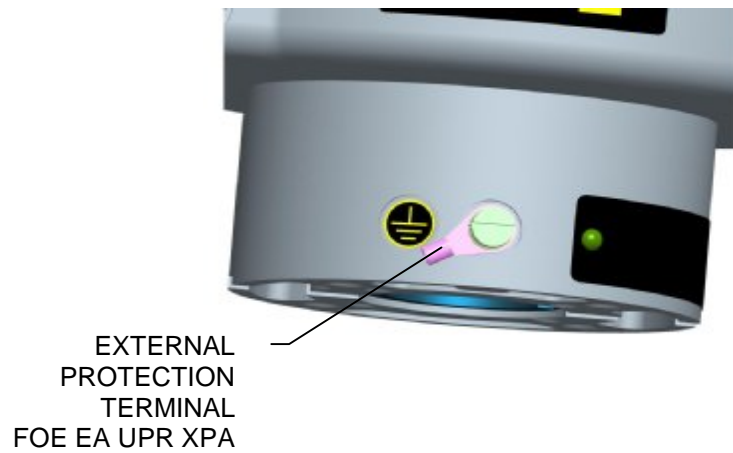
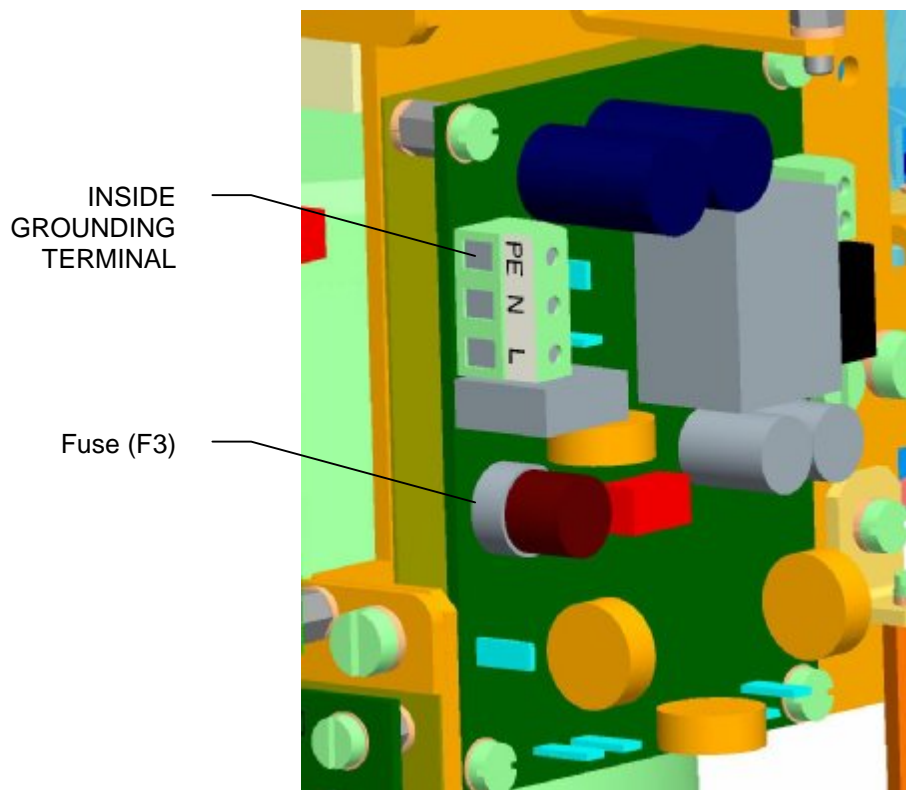
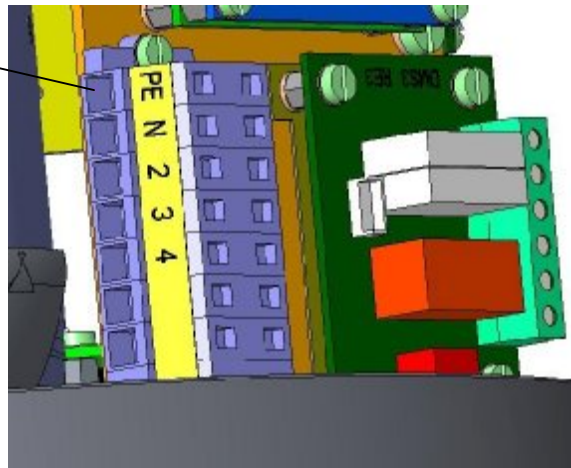

Fig.1C
Fig.1D
Fig.1F
- for safe use of the actuator it is necessary to connect the outside and inside grounding terminal. The position of the outside and inside grounding terminal can be seen in Fig. 1C and Fig. 1D and fig.1F.
Actuator power supply board for version with single-phase or three-phase electric motor is installed with power supply fuse (F3). Location of the fuse on the power supply board can be seen in Fig.1D.